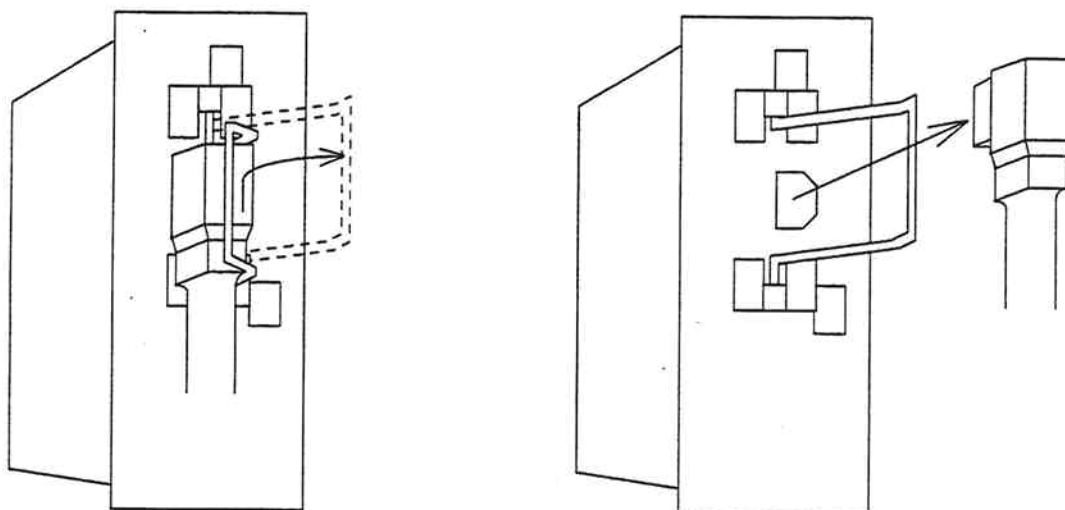

Fig. 3.4.9.2.2-3 Disconnection of Inlet Cable
- a. Loosen the two screws① and remove the support. Refer to Fig. 3.4.9.2.2-4.